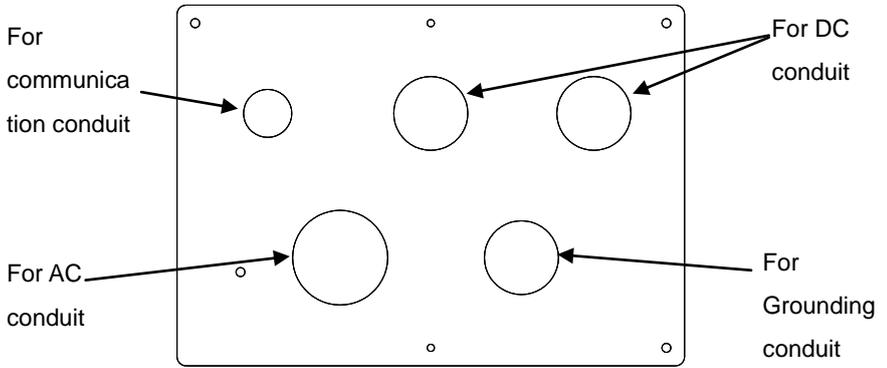

Figure 3-11 Holes on the left side cover
- (2) Wiring from the left side:
- (b) Punch five holes on the left bottom cover for steel conduits, as shown in Figure 3-11;